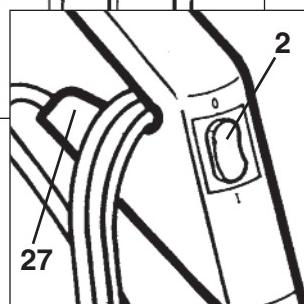

Figure 2
2. Release the power cord plug from the power cord and lift the cord off of the upper cord hook (27 - figure 2).
3. With the switch (2) in the "O" (OFF) position (figure 2), plug the polarized power cord into a 120 volt outlet located near the floor.
To use the hose without the attachment tube (**as shown in figure 2**), pull the hose out of the attachment tube while the tube is still attached to the machine and **securely seated over the projection tab (23)**. Insert an attachment tool, if desired, onto the end of the flexible hose. You may also release the hose while the attachment tube is disengaged from the machine by pressing the release button (2) at the base of the handle (11).